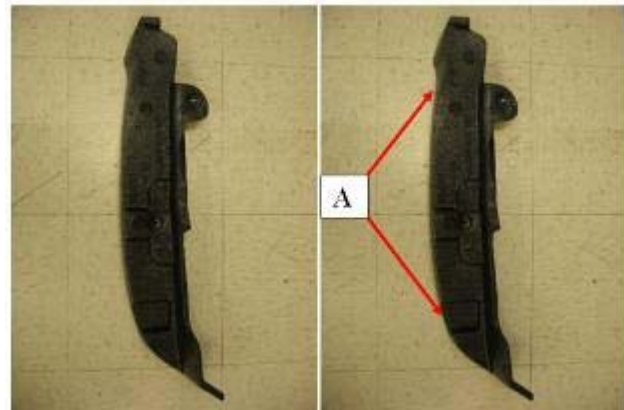

Figure 2: The end plate. Cloth tape should be installed on the entire surface of side A.
6. Install cloth tape on the entire surface on side A shown in Figure 2.